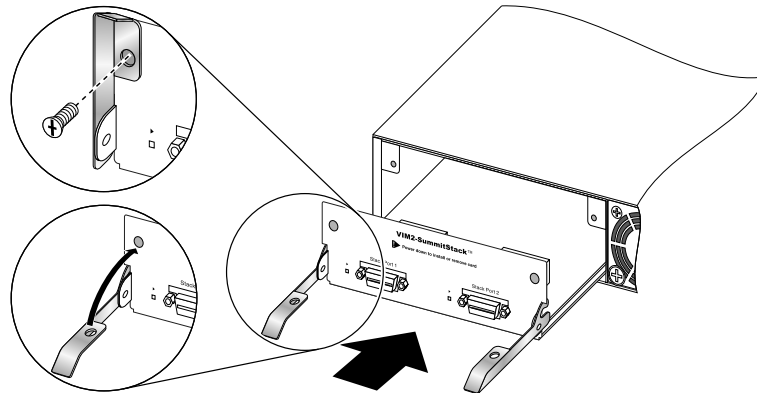

Figure 381: Installing a Versatile Interface Module
5. Install the VIM in the switch (see Figure 381 on page 445):